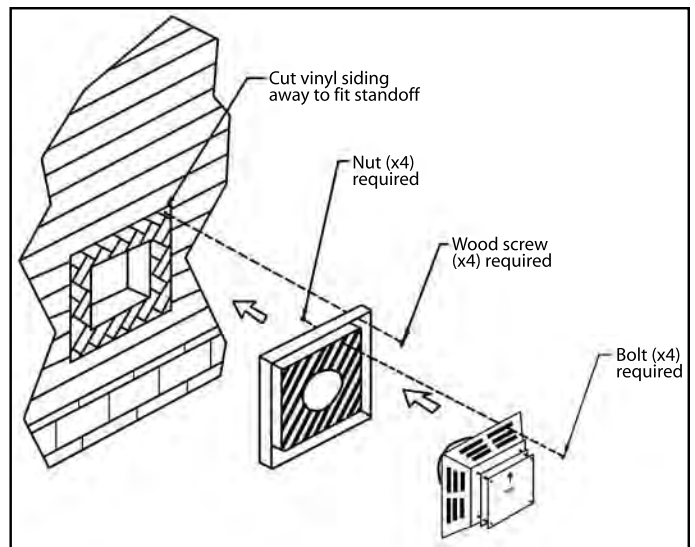

Figure 11: Installing Vent Cap with Vinyl Siding Stand-Off.
- (1) The four wood screws provided should be replaced with the appropriate fasteners for stucco, brick, concrete, or other types of siding.
- (2) For buildings with vinyl siding, a vinyl siding standoff, should be installed between the vent cap and the exterior wall (see Figure 11). Attach the vinyl siding standoff to the horizontal termination. The vinyl siding standoff prevents excessive heat from possibly melting the vinyl siding material. Note that the horizontal vent termination bolts onto the flat portion of the vinyl siding standoff (shaded area in Figure 11), so that an air space will exist between the wall and the vent termination.